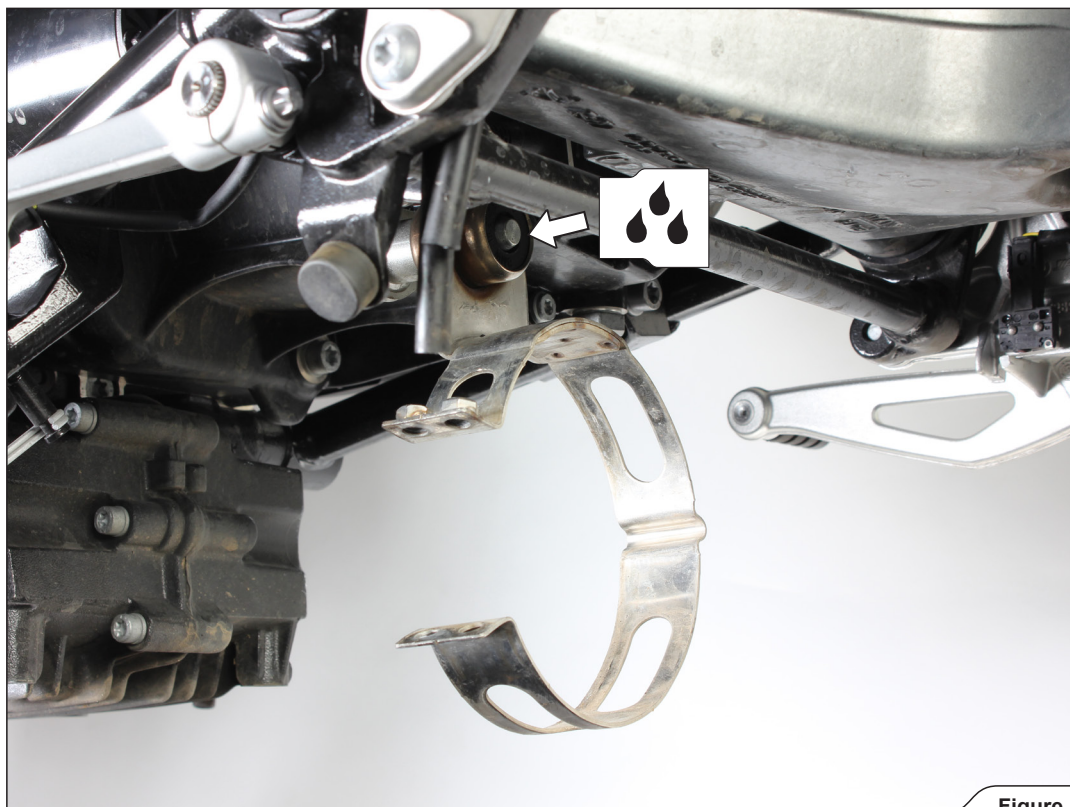

Figure 5
6. Carefully remove the header's clamp off the motorcycle (**Figure 5**).